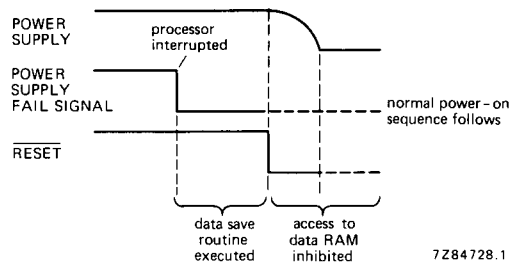

Fig. 10 Power down sequence.
**Power-down mode** (see Fig. 10)